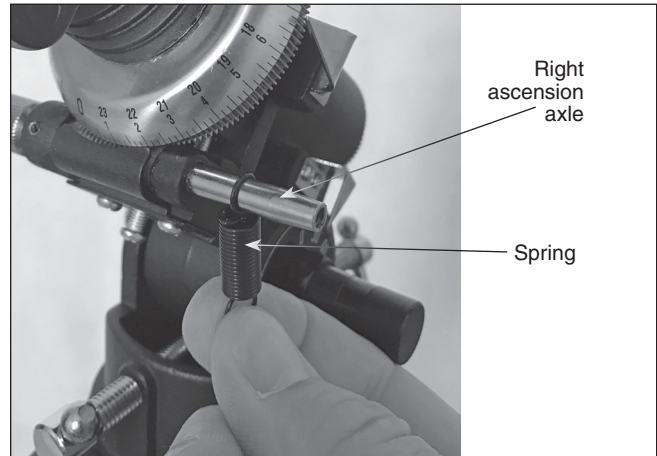

Figure 5. Attach one end of the spring to the right ascension axle as shown.
4. Place one end-loop of the spring (F) over the right ascension (RA) axle as shown in **Figure 5**.